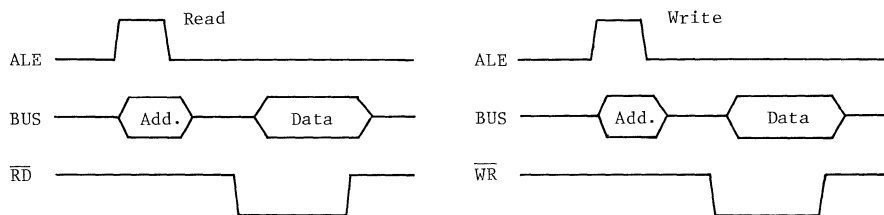

Fig.6 Timing of Accessing External Data Memory
- Figure 6 illustrates the timing of accessing the external data memory during execution of external program.